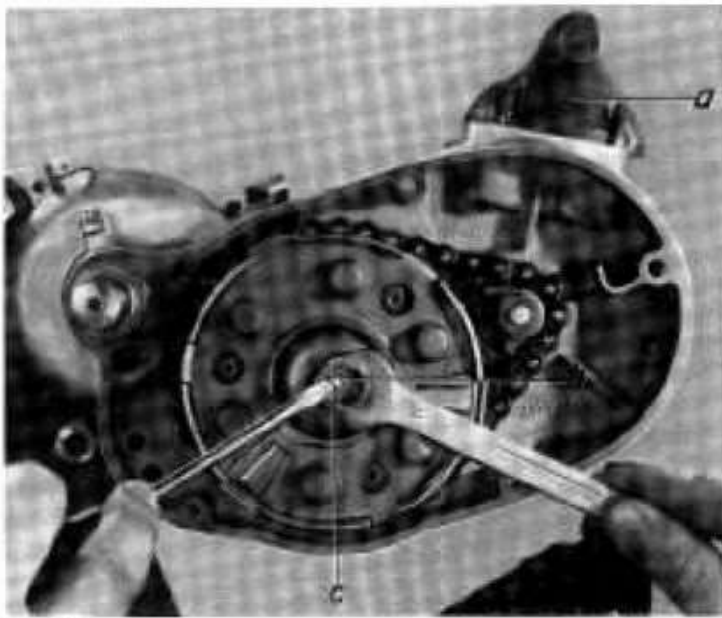

Fig. 22
3.8 Dismantle the drive and clutch. Unscrew the housing cover on the clutch side together with the gasket (5 bolts M 6). Locate the connecting rod holder (a), screw out the check nut (b) and the adjusting screw fully. (Fig. 22)